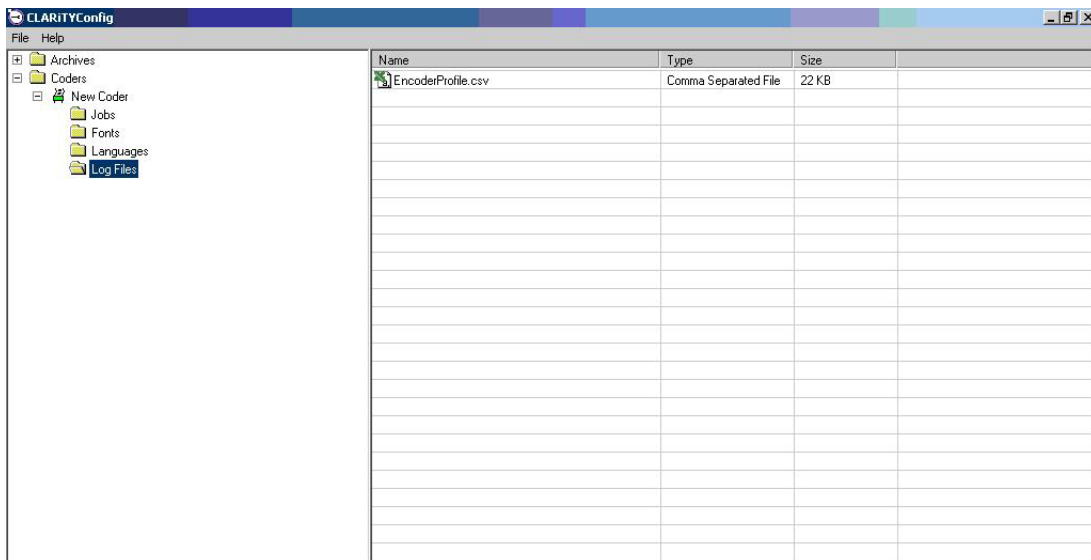

Figure 5-20: Encoder Profiles - Log Files
3. To access this file, select Log Files folder from new coder as shown in Figure 5-20.